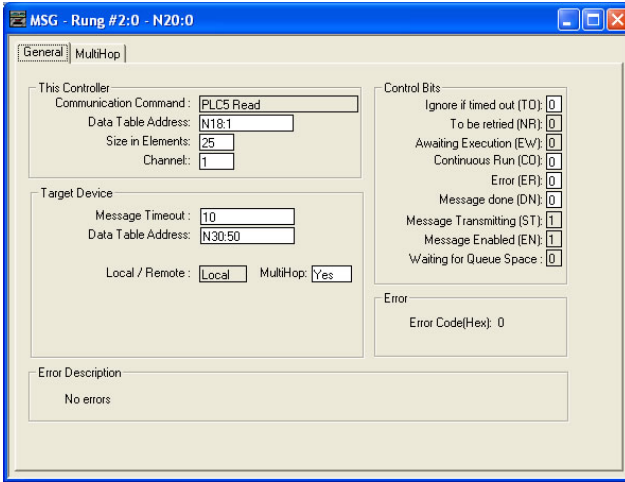

Figure 113: MSG Configuration, "General" Tab
- b) Upon hitting the <ENTER> key while in the “Control Block” entry box, the MSG Properties dialog box should appear (or it can be opened by clicking on the “Setup Screen” button at the bottom of the MSG instruction). Refer to Figure 113.